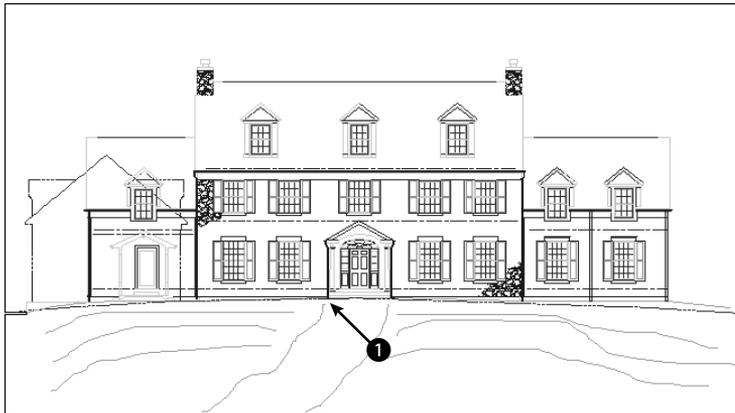

Figure 16-38: A sketched path and contours.
2. Save the file as `ab16-08.dwg` in your AutoCAD Bible folder. It shows the front elevation of a house. You'll add the sketched path and contours, as shown in Figure 16-38.
5. At the Sketch. Pen eXit Quit Record Erase Connect. prompt, move the cursor to ❶ in Figure 16-38. Click the pick button to put the pen down and draw the first line of the path. Click the pick button to put the pen up.
6. Use the same technique to draw the other lines in Figure 16-38. If you make a mistake, type **q** ↵ to quit and then start again.